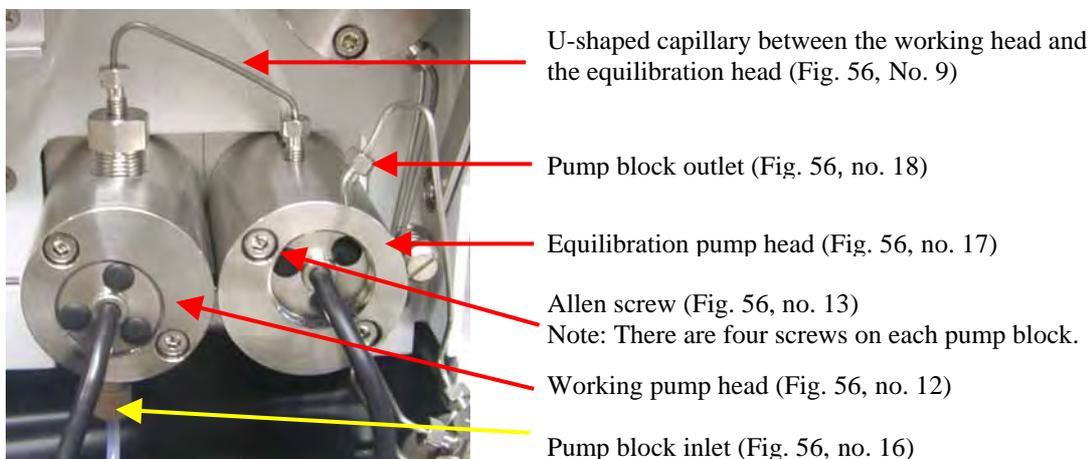

Fig. 58: Installed pump heads
- Loosen the Allen screws on the two pump heads (→ Fig. 58) and carefully remove the pump heads.